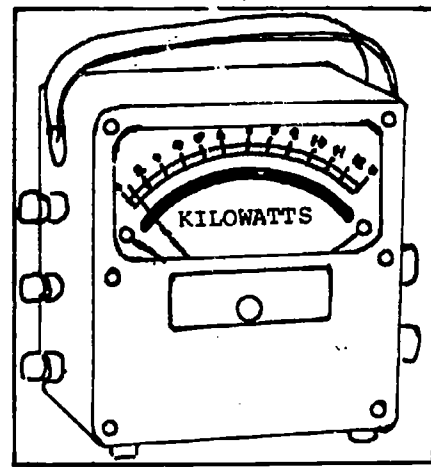

Fig 3-4. Wattmeter.
- (1) Wattmeter (fig 3-4). Through use of a wattmeter you will be able to determine the power consumption of a unit. You will also be able to determine whether or not the starting winding is open, if relays are operating correctly, and if the load on the motor is excessive or not. Wattmeters are available in many makes and models. Some read wattage only, while others are combination types. Some combination types will read voltage or amperage in addition to wattage, while others will read all three. These meters will have from two to six leads. Specific instructions on the operation of an individual meter will be included with each meter as it comes from the manufacturer. When properly connected into the circuit, your meter will give you three successive readings. As the power is turned on, the needle or pointer will swing up to a point and pause momentarily; this will be the "overswing" or "start" reading. Then, almost immediately, the needle will move back to the left (most wattmeters read from left to right) and will give you the combined start and running reading. The needle should pause for approximately 1 to 1 1/2 seconds and then drop farther back to the left and give you the running reading. If the starting winding or relay is bad, the needle will swing to the right and move all the way back to the running reading only, not pausing at the starting and running reading. If the compressor has a shortage of refrigerant,